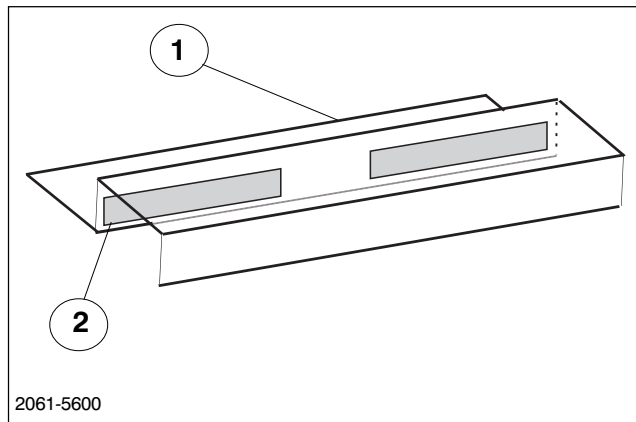

FIG. 10
11. Assemble foam to Valve Support Bracket. Cut 2" from foam and adhere to left side of Support Bracket and remaining foam to right side. (See FIG. 10)